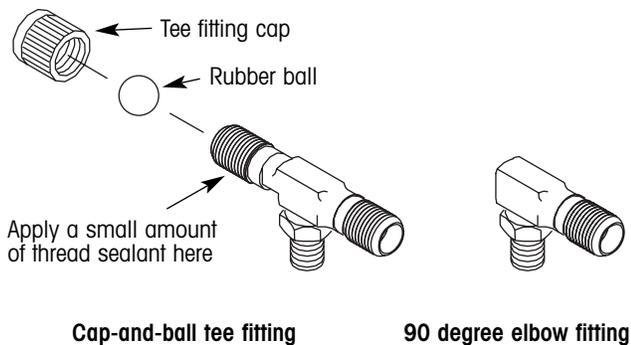

Figure 3. Wide-based tire configuration fittings
- On wide-based tire configurations only, two styles of fittings exist — a cap-and-ball tee fitting or a 90-degree elbow fitting. If you have the cap-and-ball tee fitting, install the tee fitting cap before screwing the tee fitting onto the rotary joint bulkhead adapter. **Apply a small amount of thread sealant** on one end of the tee fitting and screw the cap on the same end of the tee fitting (figure 3). Tighten the cap to 12 - 18 ft. lbs. (16 - 24 N•m) of torque. If you have the 90 degree elbow tee fitting, proceed to step 3.